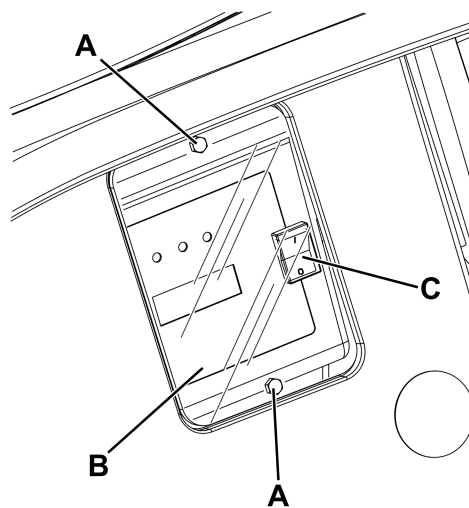

Figure 2
7. Remove the battery charger data inspection window screws (A, Fig. 2).
8. Remove the window (B).
9. Turn the battery charger selector (C) to WET for lead batteries, or to GEL for gel/agm batteries.
10. Install the window (B) and tighten the screws (A).